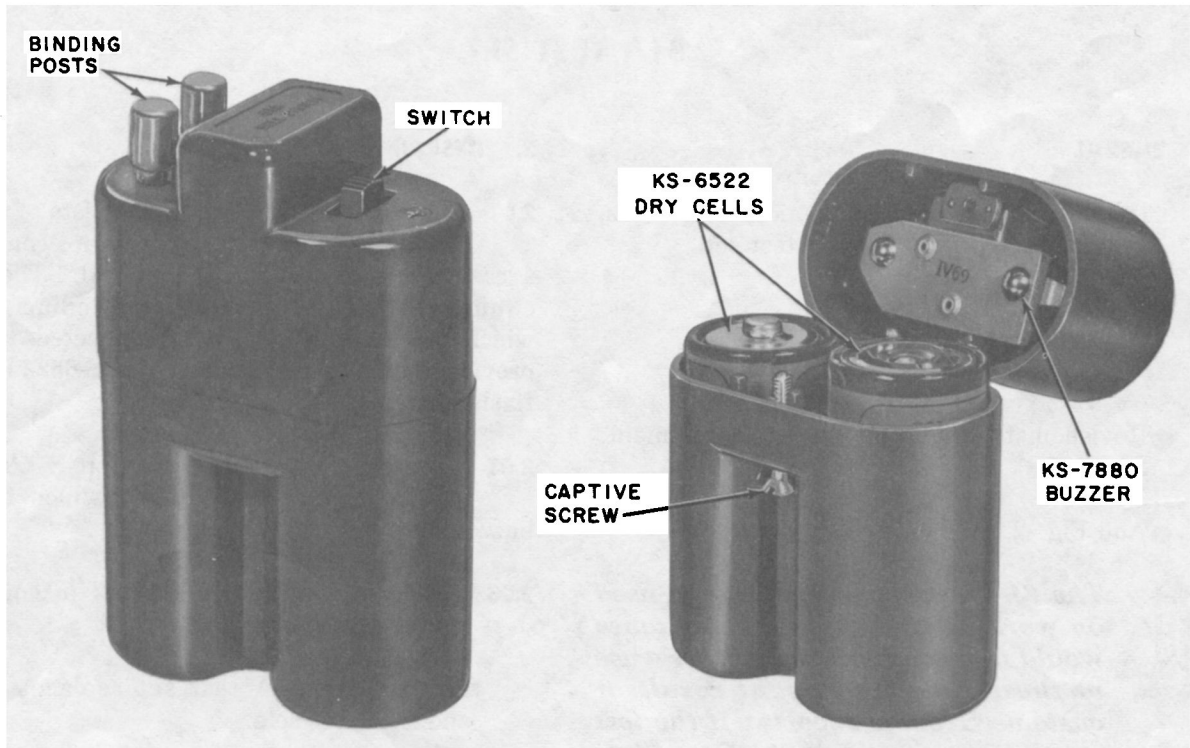

Fig. 1—The 81A Test Set, Closed and Open
2.01 The 81A test set (Fig. 1) consists of a buzzer, capacitor, and switch which are contained in a case made of insulating material. The case is equipped with two spring-type binding posts to which the test leads may be connected. Space is provided within the case for two KS-6522 (standard flashlight) dry cells.